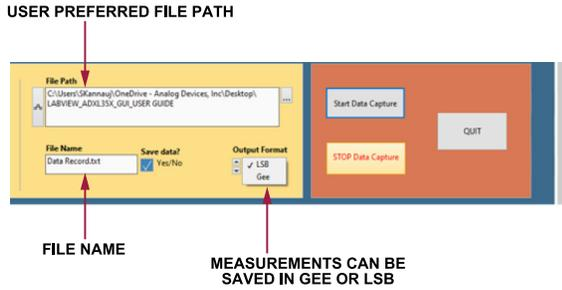

Figure 14. User Defined File Path and Name
- ▶ **File Path.** All data can be saved with a custom name to a specified path in either gee or LSB format (see Figure 14). There are alternative methods for accessing data. When right click on the measurement window, various export options (such as to clipboard or to Excel) appear. Additionally, a screenshot of the window can be copied using the **Copy Data** option. Note that the export method is designed to capture the data currently displayed in the window, with a maximum of 10,000 samples
- ▶ **Start Data Capture/Stop Data Capture and Quit.** These commands are universally accessible across all tabs. Clicking **Start Data Capture** initiates data collection on the current tab. Once activated, **Start Data Capture** is automatically grayed out and disabled until the user presses **Stop Data Capture**. **Quit** allows the user to exit the GUI (see Figure 14).